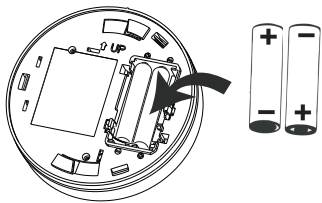

Figure 7
- 1) Load AA batteries into battery compartment,pay attention to the'+/-'directions(refer to Figure 7).